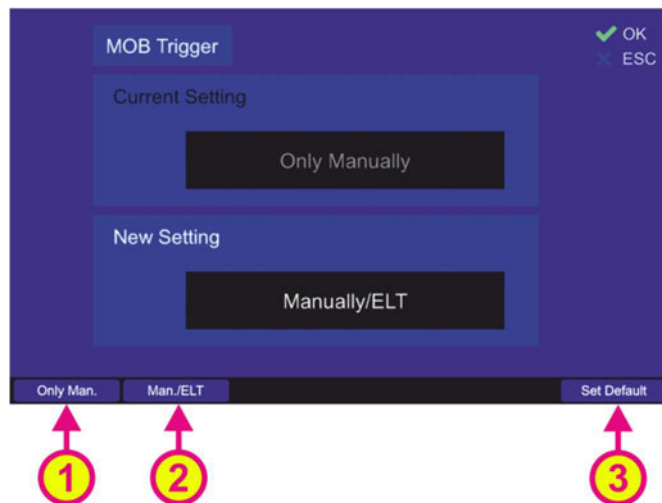

Figure 128. MOB trigger dialog
To adjust the trigger event for starting the MOB mode, press the "OK" button or hotkey "Edit Value", while the setting "MOB Trigger" is marked. The following dialog will open (s. Figure 128).
- o Choose the new setting using one of hotkeys (s. Figure 128, positions 1 or 2), which will then appear in the "New Setting" field.
- o Press the hotkey "Set Default" (s. Figure 128, position 3), to use the default value ("Only Manually").